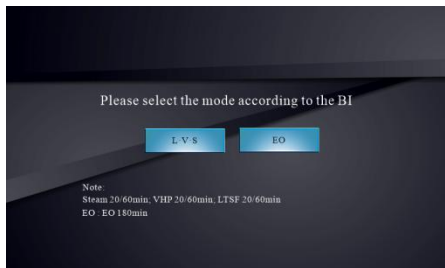
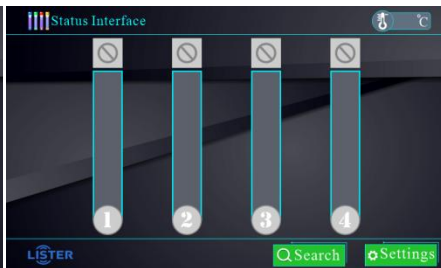
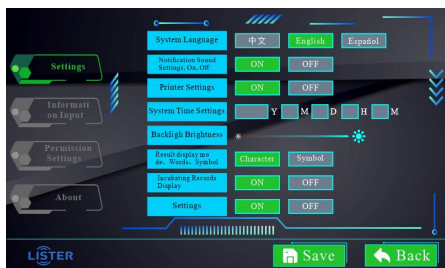

Figure 3: Mode Selection
Figure 4: Status Interface
Figure 5: Main Interface
- c. After briefly displaying the startup animation (self-checking, lasts about 10 seconds), enter the "**Mode Selection**" interface shown in **Figure 3**. Select the mode according to the type of indicator to be cultivated, and enter the startup preheating interface. After preheating for about 20 minutes, enter the "**Status Interface**" shown in **Figure 4**. If you need to set up this device, click on the upper right corner "**Settings**", enter the "**Main Interface**" shown in **Figure 5**, where you can enter information, query historical records, set
permissions, basic settings, and view machine information. Click " Back" to return to the "**Status Interface**" shown in **Figure 4**.
- a. Within 3 minutes of crushing the indicator, as shown in **Figure 4 "Status Interface"**, the numbers at the bottom of the display screen represent the numbers of each cultivation hole (①, ②, ③, ④), marking each cultivation hole. Click on the channel number at the bottom of the status interface, enter the scanning mode, align the indicator with the QR code on the right scanning window, when the alarm sounds, the channel status changes to blue, indicating that the cultivation channel is opened. Insert the indicator into the cultivation hole, and the system will automatically enter the cultivation mode according to the type of QR code.